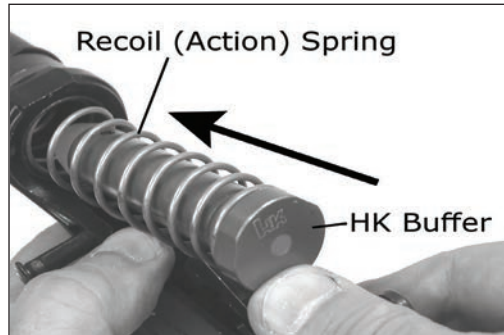

Fig. 30 – Installing the buffer spring
- c. Ensure that the hammer is in the down (cocked) position before attempting to install the buffer spring. Mount the buffer spring onto the buffer and insert the buffer and spring into the receiver extension. Push back on the buffer far enough until the buffer is retained by the spring loaded buffer detent (Fig. 30).